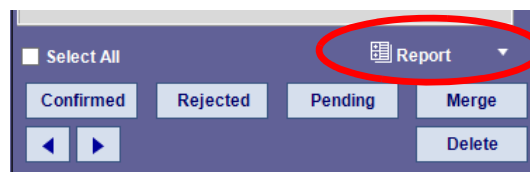

Figure 12-89 Report Pull-down Menu
- Select a report option from the pull-down menu in the lower-right area of the **Findings** window (Figure 12-89).